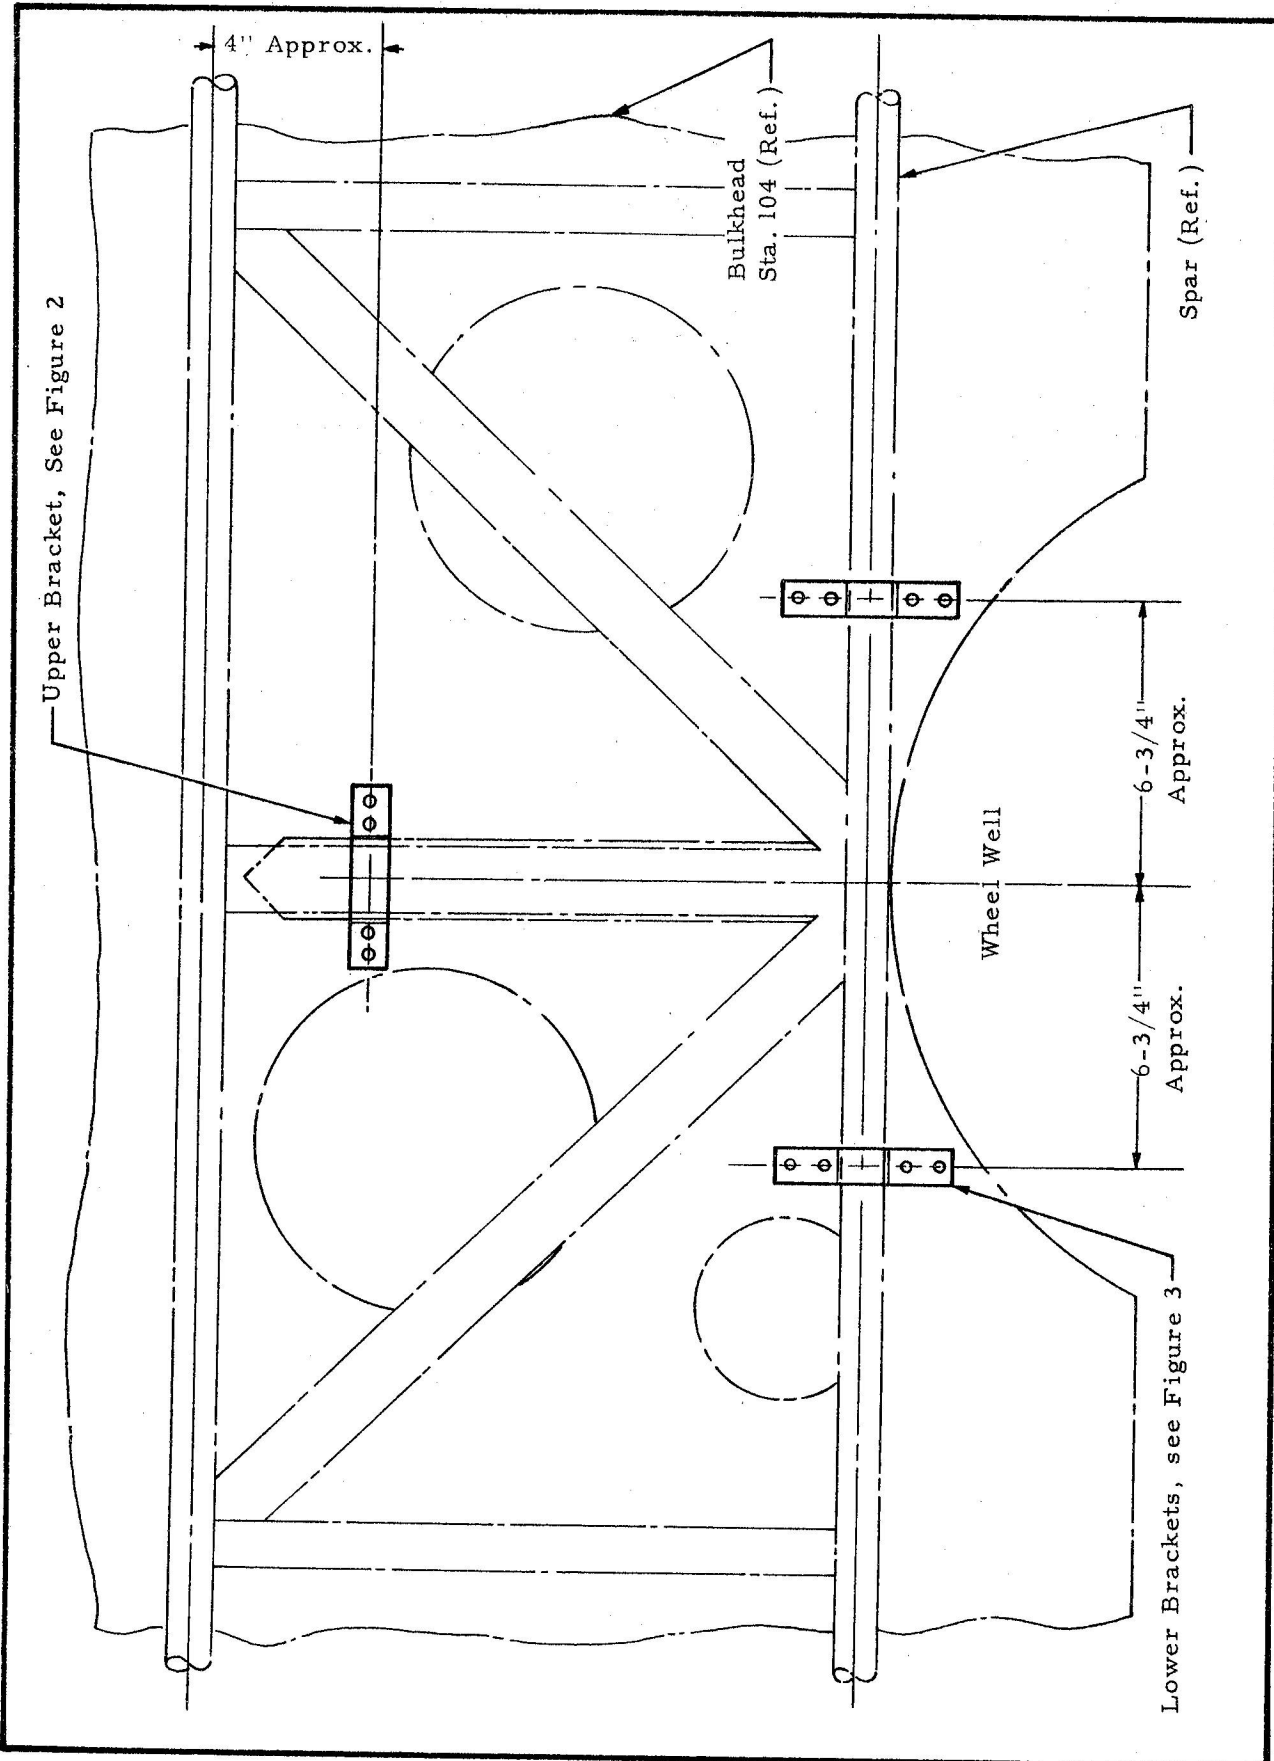

Figure 1 View Looking Aft in Nacelle
- (d) Position and install the brackets, and spacers, if required, as shown in Figures 1, 2 or 3, as applicable.